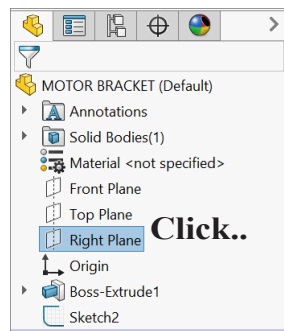

Fig. 13
Step 8. Click **Right Plane**  in the Feature Manager to select plane, **Fig. 13**.